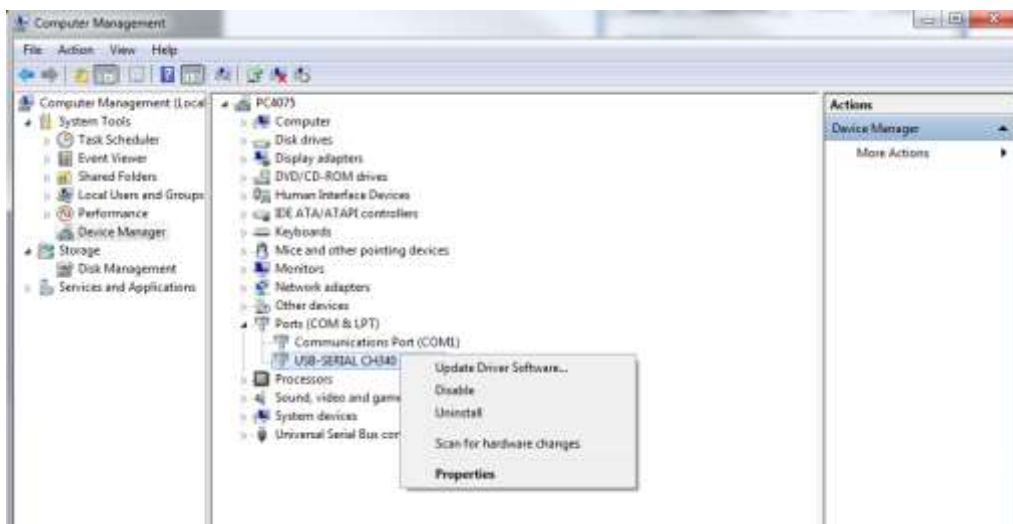

Fig.2
3. Right-click **Computer** and select **Manage**. From the **Manage** window, select **Device Manager**. Under **Ports (COM & LPT)**, right click on the USB-to-Serial converter (see Fig.2 below)